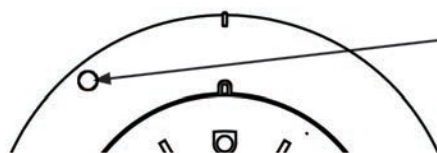

Figure 7: Removing Base Cover from Lower Enclosure
3. To remove the base cover from the lower enclosure once the locking feature has been activated, insert a small screwdriver into the slot on the on the base to push the plastic tab while simultaneously turning the detector head counter-clockwise (refer to Figure 7).